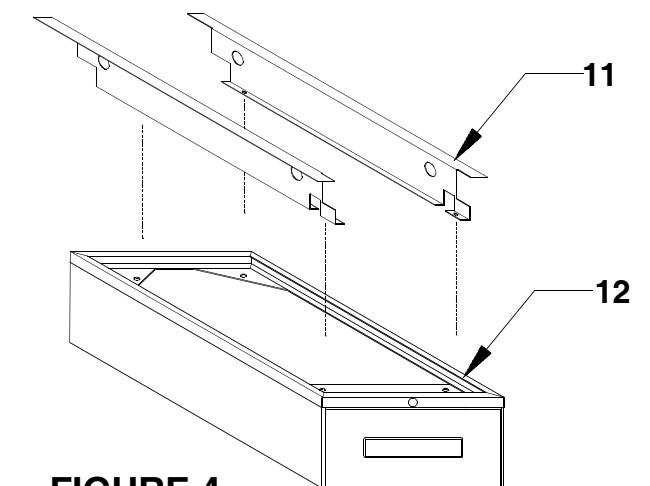

FIGURE 4
### DRAWER UNITS (Refer to Figure 4)
- Position drawer hanger brackets (Ref. No. 11) on top of mounting channels of drawer unit (Ref. No. 12) as shown in Figure 4. Secure with  $\frac{1}{4}$  x 20 x  $\frac{5}{8}$  bolt and J-clip.